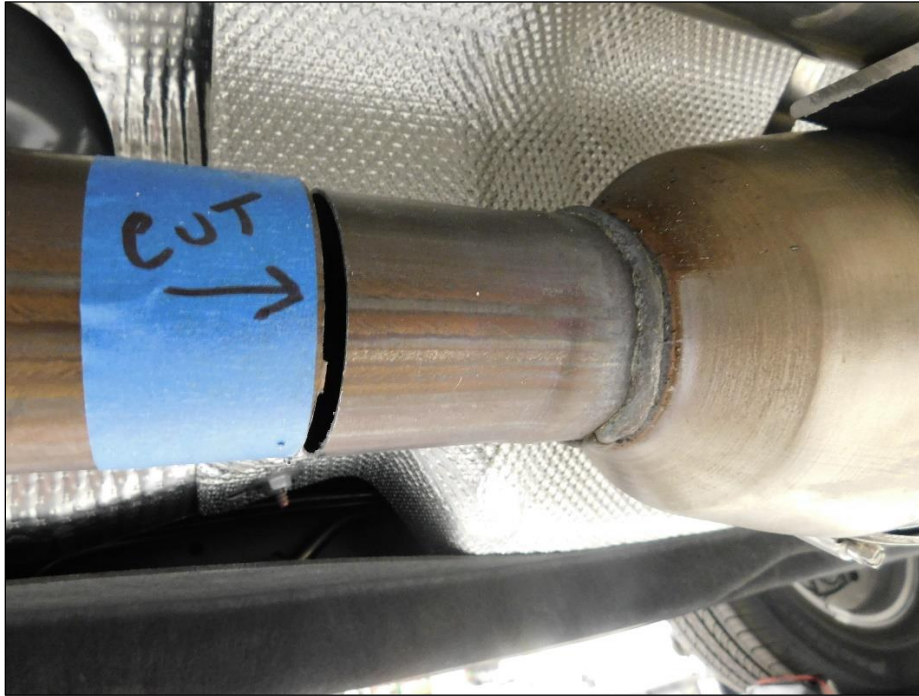

Figure 3
- Using a reciprocating saw or cut off wheel, cut the Catalytic Converter from the exhaust system. Use the inside tape edge as a guide to make a straight cut (**Fig. 3**).
- Using a reciprocating saw or cut off wheel, cut the Catalytic Converter from the exhaust system as outlined in **Steps 3 & 5**. Use the inside tape edge as a guide to make a straight cut (**Fig. 3**).